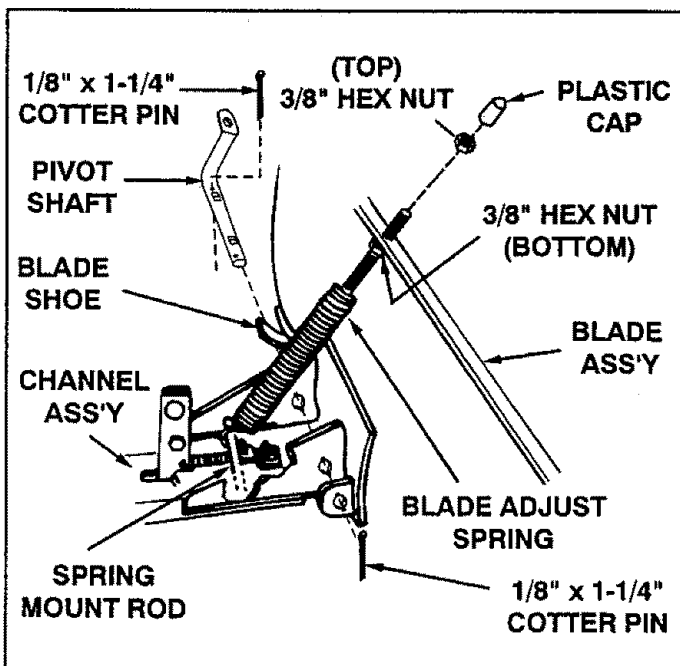

FIGURE 29
- Attach blade assembly to channel assembly using the pivot shaft. Secure with two 1/8" x 1-1/4" cotter pins. See figure 29.
- Attach blade adjust spring over spring mount rod as shown in figure 29. Remove plastic cap, and 3/8" hex nut. Adjust the remaining 3/8" hex nut on the long bolt to approximately one inch down from end of bolt threads. Assemble adjusting bolt through hole in top edge of blade and hold in place with 3/8" hex nut removed earlier. Tighten 3/8" hex nut on top edge of blade down against the bottom 3/8" hex nut. Replace plastic cap over end of adjusting bolt threads. See figure 29.
Blade adjust spring tension is adjustable to permit blade to tilt forward to by-pass solid obstructions. To change spring tension (stand in front of blade assembly), adjust the nuts at the upper end of the spring, turning counter clockwise to relieve tension and clock wise to increase tension. See figure 29 on page 11.